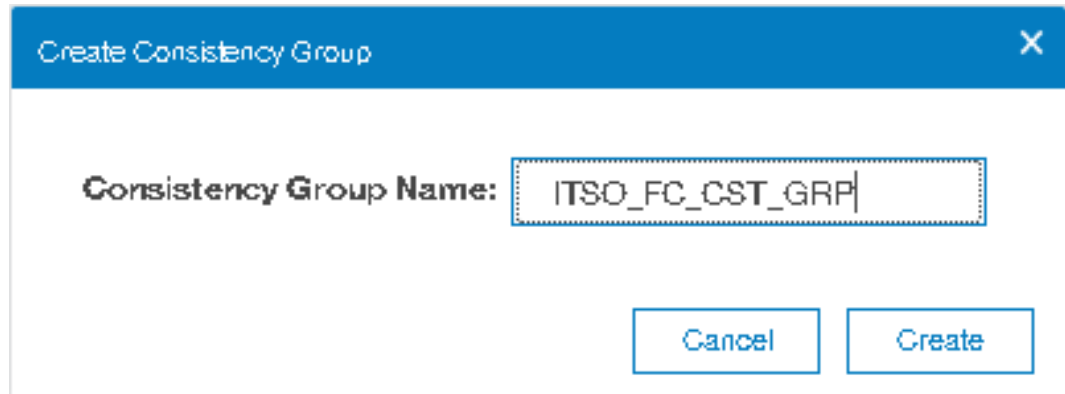

Figure 10-38 Create Consistency Group window
2. Click **Create Consistency Group** and enter the FlashCopy Consistency Group name that you want to use and click **Create** (Figure 10-38 on page 499).